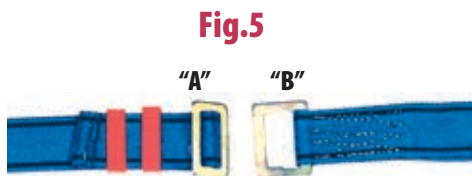
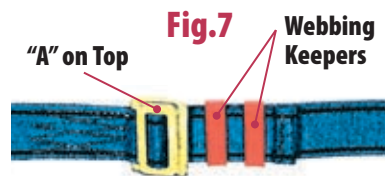

Fig.5
Fig.7
1. Align the shoulder straps so they are parallel to each other as shown at Fig.1. Buckle the chest strap by inserting buckle "A" through buckle "B" as shown at Figs.5, 6 and 7 below. Adjust the chest strap length by moving the webbing through buckle "A" so the shoulder straps do not extend past your armpits. For an average size person the length between the shoulder straps should be no more than 12". The chest strap should be positioned at armpit level as shown at Fig.1.
7. Friction buckles are locked by inserting the smaller "A" buckle through the larger "B" buckle (Fig.5). Turn "A" buckle at an angle as shown at Fig.6 and slide through "B" buckle. The "A" buckle should lay flat over the top of the "B" buckle as shown at Fig.7.
- b) Webbing stitches are loose, pulled apart, broken or cut. **Fig.6**. Inspect webbing overlaps and stitches on the underside of stitch pattern as shown at **Fig.7**.
- d) Chest strap webbing holders (black plastic) are broken or missing. **Fig.5**.